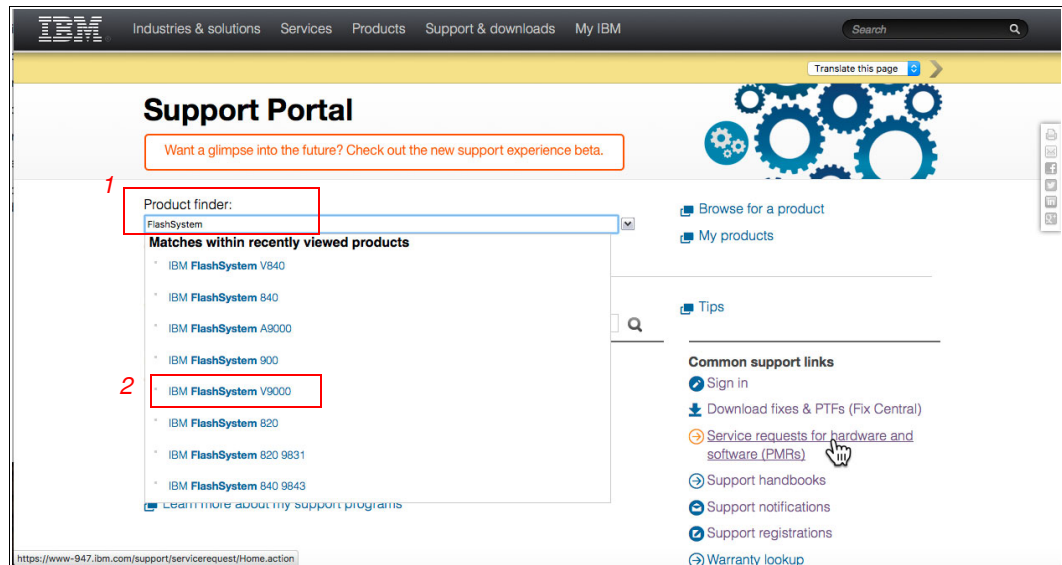

Figure 7-42 Support Portal
1. After signing in with your IBMid, a page opens to the Support Portal (Figure 7-42). In the Product finder field, start typing FlashSystem (1). Select **IBM FlashSystem V9000** from the list (2). The IBM FlashSystem V9000 specific information is displayed.